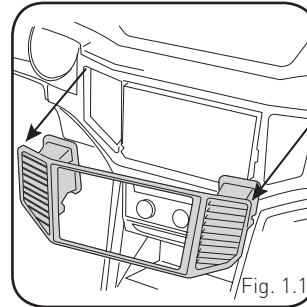

Fig. 1.1
1. Using a panel tool, carefully pry outward around the radio trim panel to release the clips securing it in place. (Fig. 1.1)